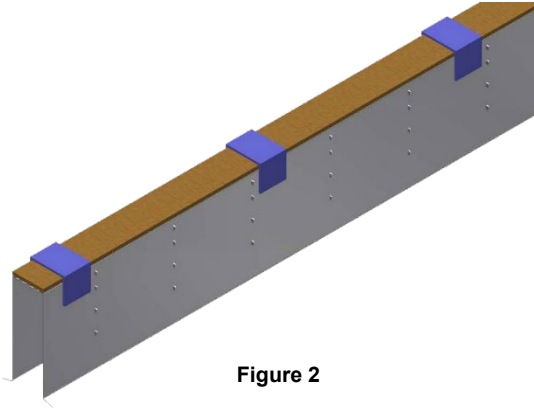

Figure 2
4. Cover the slot riser opening to prevent debris from entering the system (Figure 2).